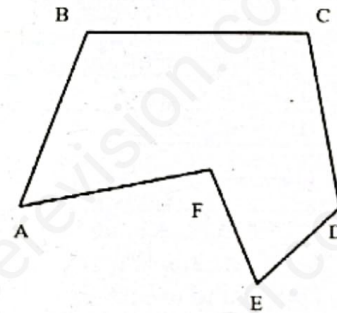

Figure 5
20. Categorize the type of loop shown in Figure 5 below, extracted from a survey field book.